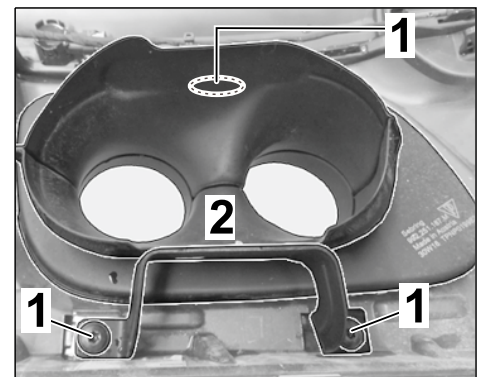

Figure 8
3.1.1 Remove trim frame for tailpipe cover (left ⇒ *Figure 8*/right)(⇒ *Workshop Manual '637019 Removing and installing trim frame for tailpipe cover*).